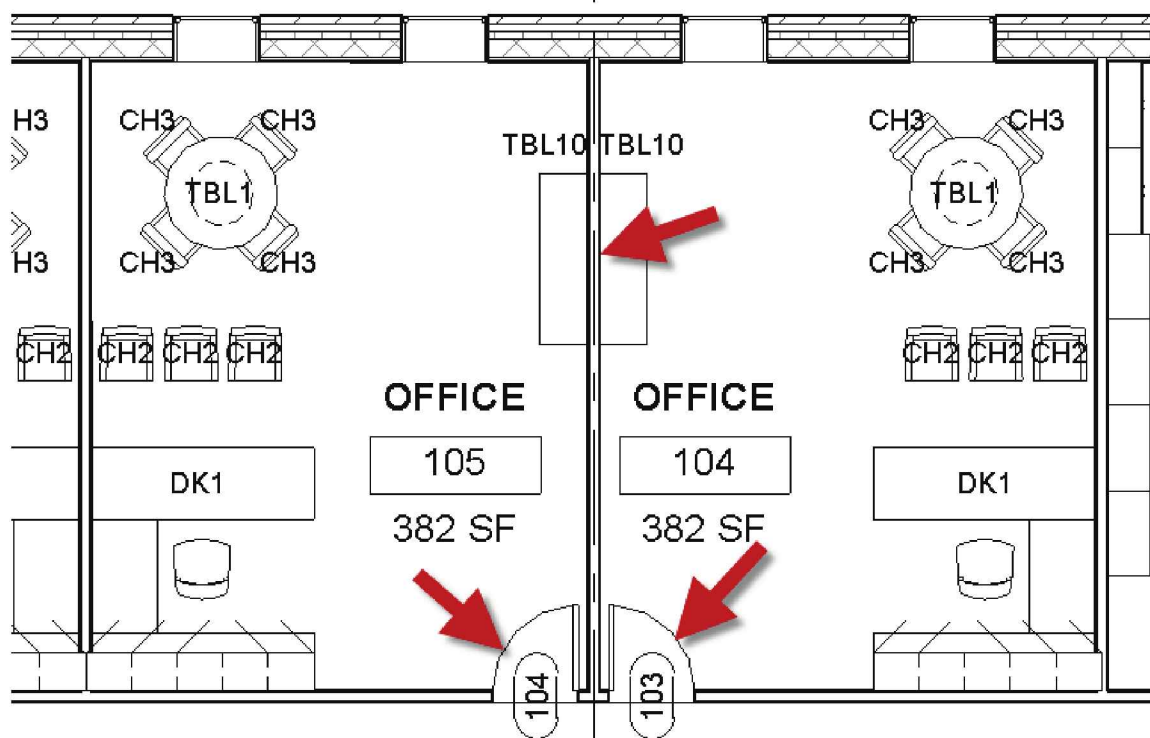

FIGURE 17-3.8 Level 1 – Existing floor plan view – wall and two doors to be demolished
16. Zoom into offices 104 and 105 as shown in Figure 17-3.8.
17. Holding the Ctrl key, select the wall and two doors pointed out in Figure 17-3.8.